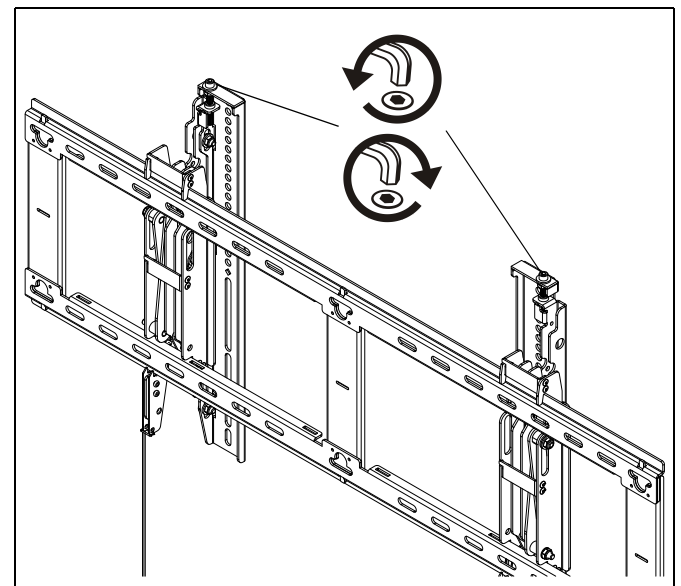

Figure 18
1. If required, adjust level of monitor by turning screws on top of each interface bracket. Turn screws clockwise to lower the level and counter-clockwise to raise the level. (See Figure 18)